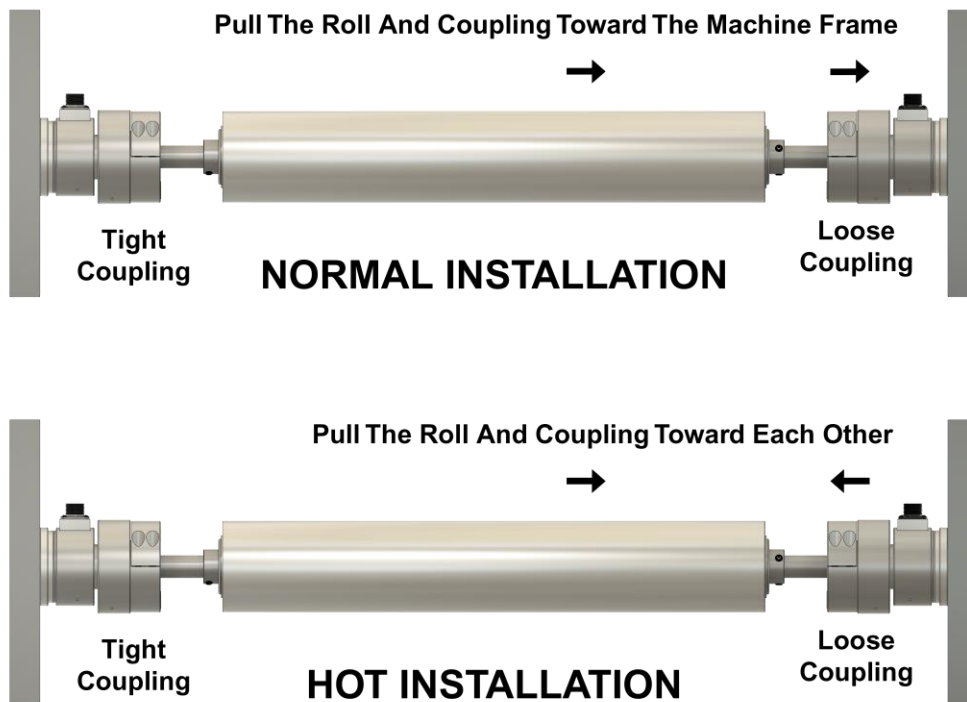
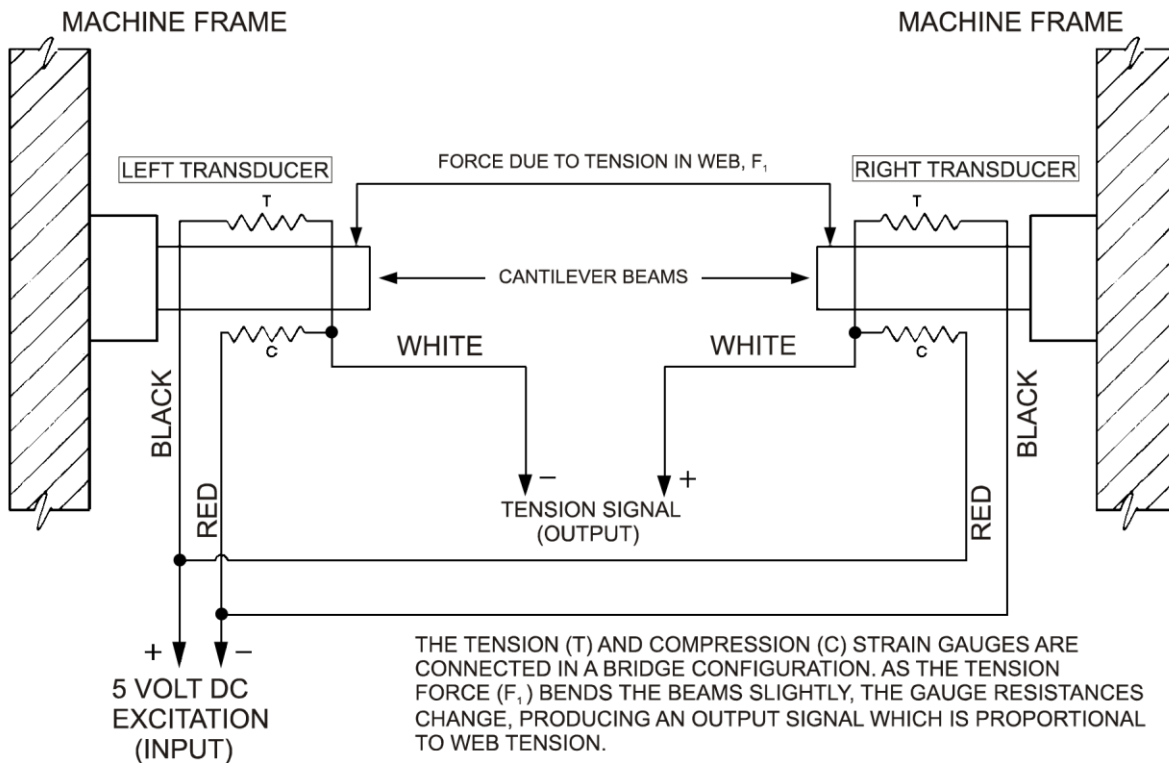

Figure 8 - ADJUSTING FOR AXIAL PLAY
Figure 11 - STRAIN GAGE CONNECTIONS
Refer to Figure 8. Remember, the left end transducer is tightly clamped to the shaft and the right end coupling cap is loose.
1. Install the coupling cap, securely tightened as in section 2.3.3 (live shaft procedure). Loosely start the six bushing clamp screws, then tighten as described in the same section (they are pictured in Figure 11). Refer to Figure 8 (normal installation). Remember, the left end transducer is tightly clamped to the shaft and the right clamp is loose.
Special procedure for hot installations: If the idler roll is exposed to high temperatures (from a hot web, for example), it may be advisable to maximize the axial play to allow the shaft length to expand more without danger of preloading the transducers. To increase axial play to the maximum; follow the procedures in Section 2.3.5, then push the loose coupling **toward the roll** instead of away from it. Refer to Figure 8 (hot installation). This will double the available axial expansion capability as compared to the normal installation procedures.